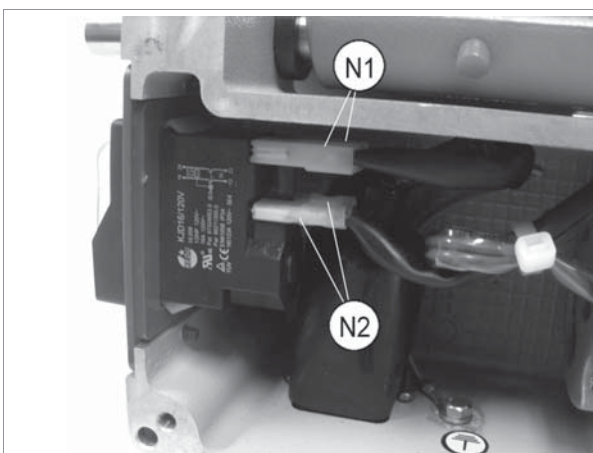

Fig. 35
- 2) Detach the 4 connectors (N1) and (N2) paying special attention to their position (Fig. 35).